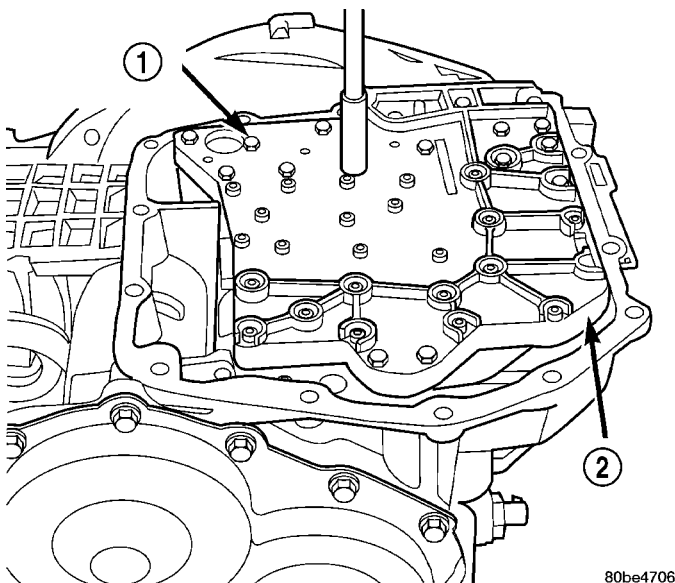

Fig. 19 Remove Valve Body-to-Case Bolts
(7) Turn manual valve fully clock-wise to get park rod into position for removal.
(8) Remove valve body-to-case bolts (Fig. 19).